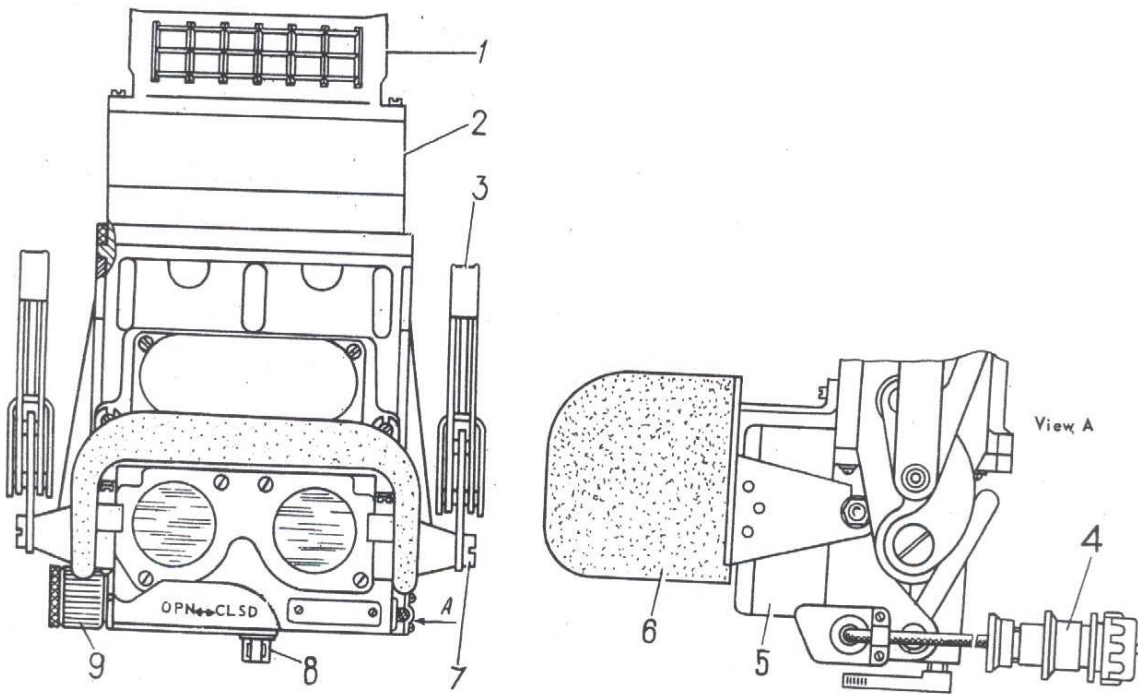

FIG. 101. DRIVER'S NIGHT VISION DEVICE TBHO-2B
1. Night vision device TBHO-2E (Fig. 101).